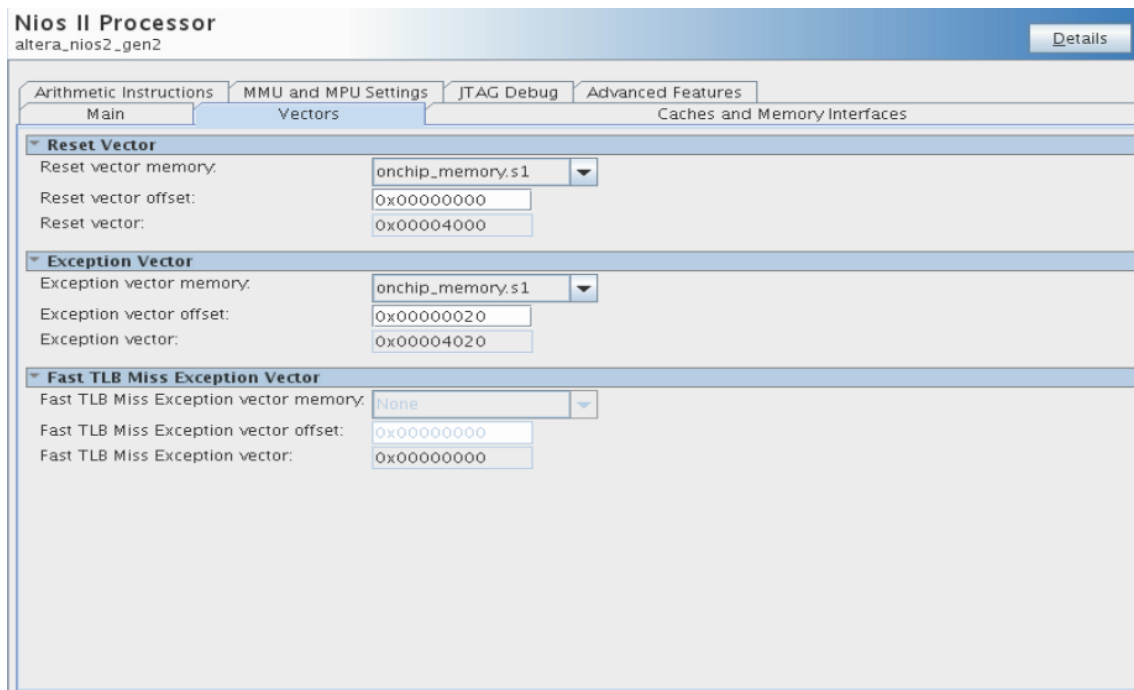

Figure 27: Assign Vectors in the Nios II Parameters Panel
- See Figure 27 below for example.